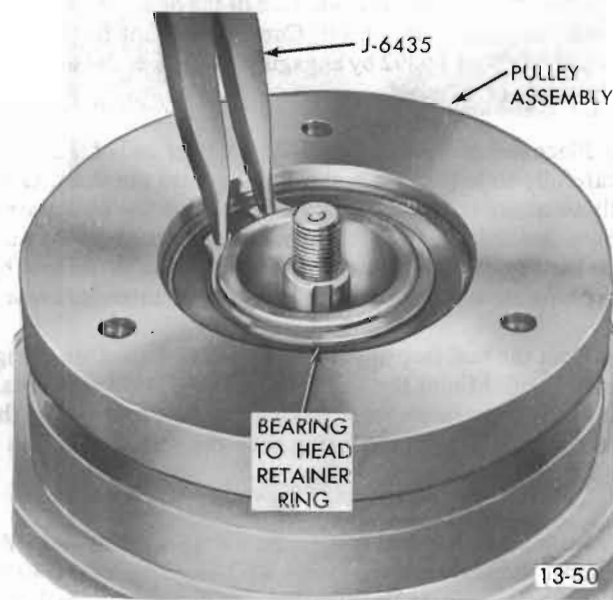

Figure 13-27 Removing or Installing Bearing to Head Retainer Ring
2. Using No. 26 Truarc pliers (J-6435) remove bearing to head retainer ring (see Figure 13-27).
retainer ring (flat side of retainer ring downward) using No. 26 Truarac pliers (J-6435). See Figure 13-27.